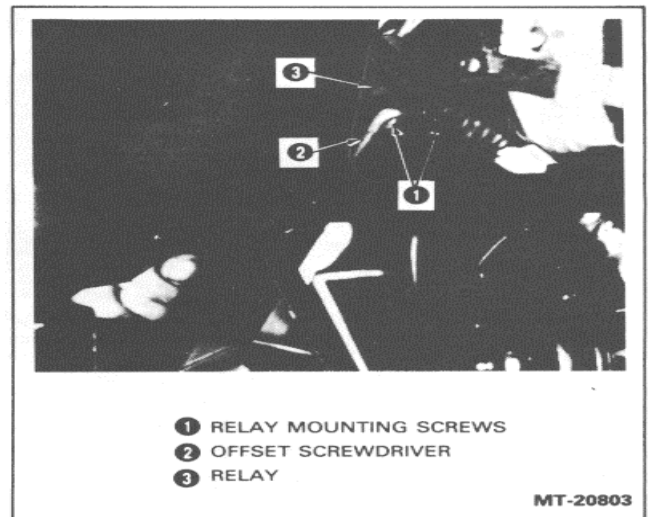

Figure 30. - Removing Relay
4. Using offset screwdriver or screwdriver socket, remove relay mounting screws and remove relay(s) from air duct (Figure 30).